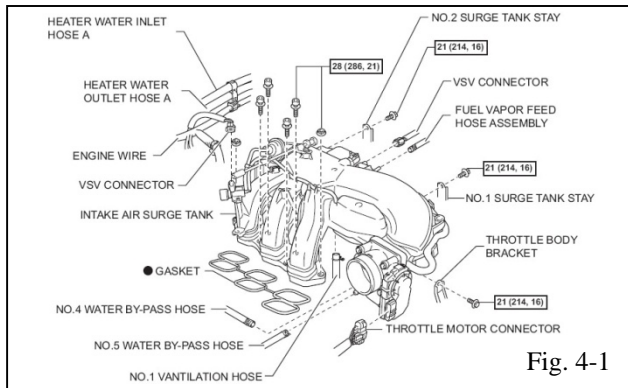

Fig. 4-1
(a) Disconnect the fuel vapor feed hose (Fig. 4-1 & 4-2).
(b) Disconnect the ventilation hose (Figs. 4-1 & 4-3). If equipped, remove the Brake Booster vacuum hose from the intake manifold.
(c) Disconnect the 2 VSV connectors (Figs. 4-1 & 4-4).
(d) Remove the 4 wire harness clamps and hose clamps (Figs. 4-1 & 4-4).
- (f) Remove the 3 upper bolts which are used to secure the 2 surge tank stays and throttle body bracket (Figs. 4-1 & 4-5).